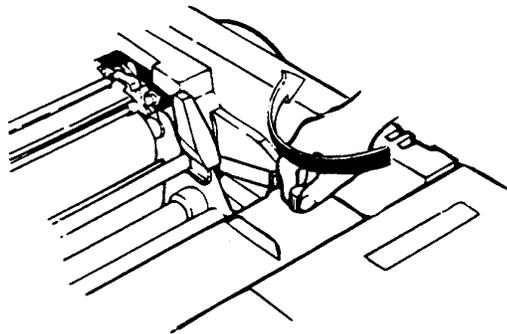
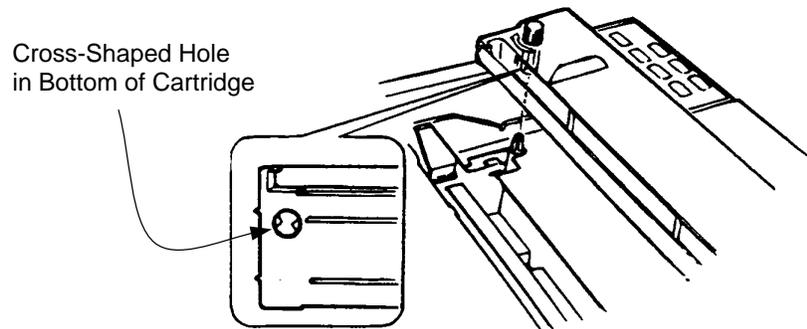

Figure 5-3. Removing Ribbon Slack
Figure 5-4. Aligning Ribbon Drive Blade
If the cartridge does not properly seat on the right side, turn the ribbon advance knob (Figure 5-3) until the small black ribbon drive blade slides into the cross-shaped hole in the bottom of the cartridge (Figure 5-4).
- 9.6. Turn the ribbon advance knob clockwise, as shown by the curved arrow on the cartridge (Figure 5-3), until all slack in the ribbon is removed and the ribbon aligns itself in the striking area between the print head and the shiny vertical plate next to the platen. The ribbon should also align itself in the notches in the left and right main ribbon cartridge guides. If not, adjust accordingly.